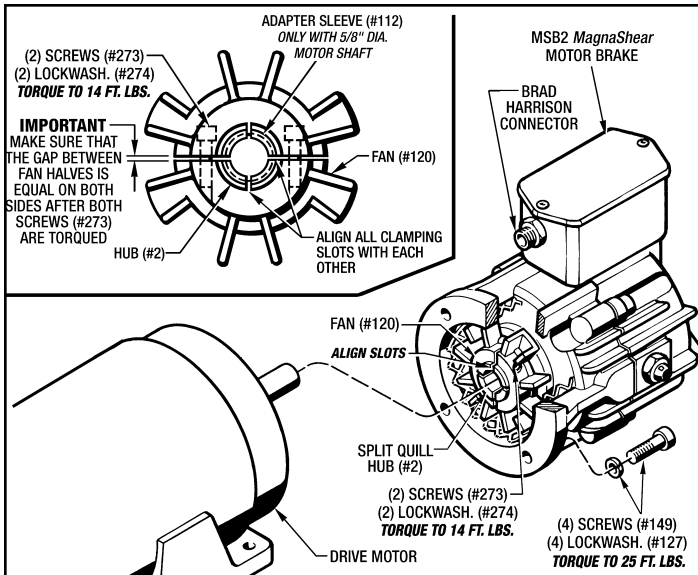

Figure 4 - Installing The MSB2 MagnaShear Motor Brake
(See Figure 4)
1. If you have a 5/8" Dia. motor shaft then there will be a 5/8" Adapter Sleeve (#112) in the bore of the Hub (#2). Make sure the Quill Locking Slots are all aligned with each other as shown in *Figure 4*.
Also if you have a 7/8" Dia. motor shaft, you won't have the Adapter Sleeve (#112), but two of the Quill Clamping Slots in the Hub (#2) has to be aligned with the gaps in the Fan (#120) as shown in *Figure 4*.
4. Evenly torque the (2) Screws (#273) in the Fan (#120) to **14 Ft. Lbs.** Make sure that both gaps in the Fan (#120) are equal as shown in *Figure 4*.